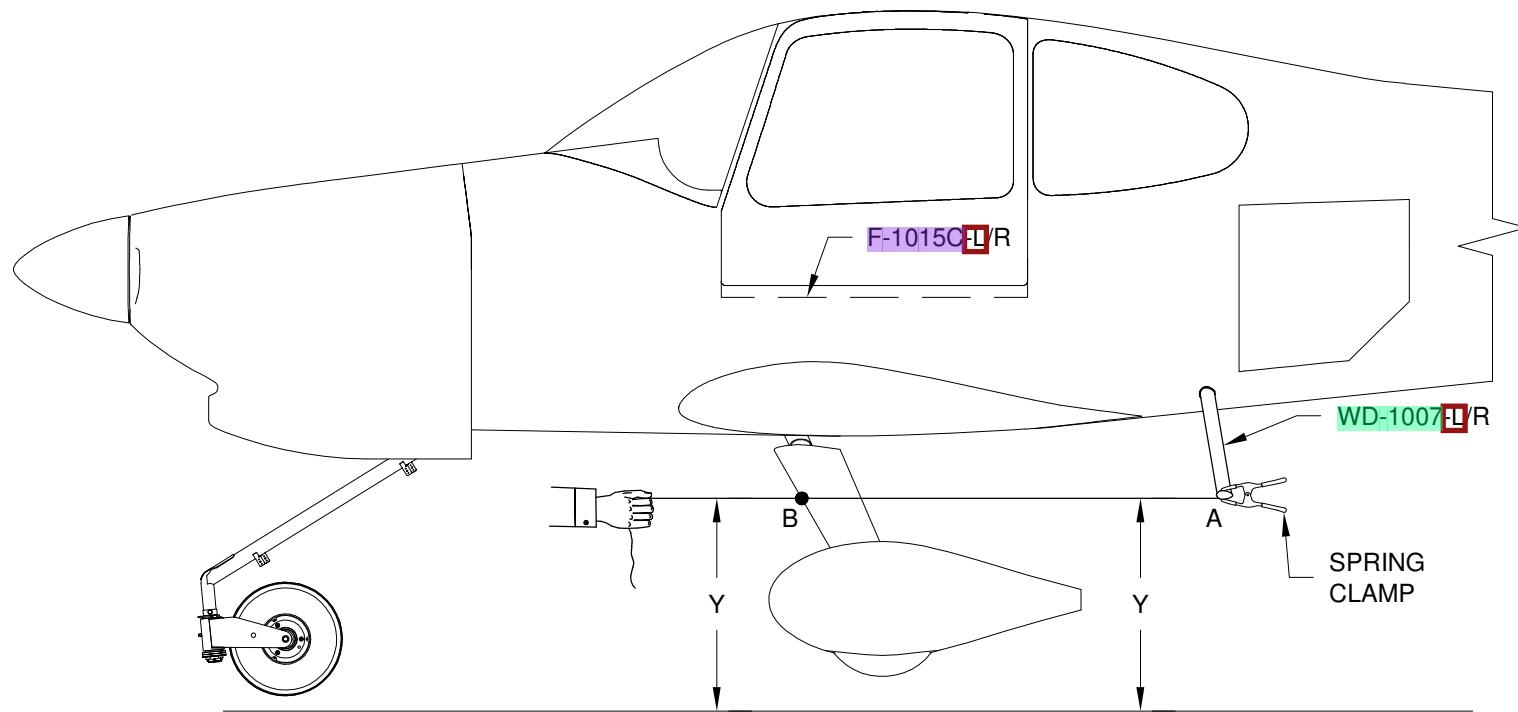
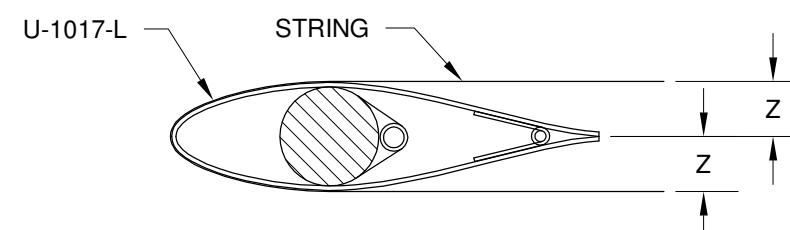

FIGURE 1: LEVELING AIRCRAFT AND ALIGNING GEAR LEG FAIRINGS
FIGURE 3: ALIGNING GEAR LEG FAIRINGS
Step 3: Wrap a string around the leading edge of the U-1017-L Gear Leg Fairing as shown in Figure 3 at point "B" (see Figure 1) and pull both ends tight to the spring clamp at "A". Be sure the string is level and parallel to the F-1015C-L Mid Cabin Deck. Measuring from the floor will be adequate here. When the leading and trailing edges of the gear leg fairing are centered between the strings as shown in Figure 3 the gear leg fairing is properly aligned.